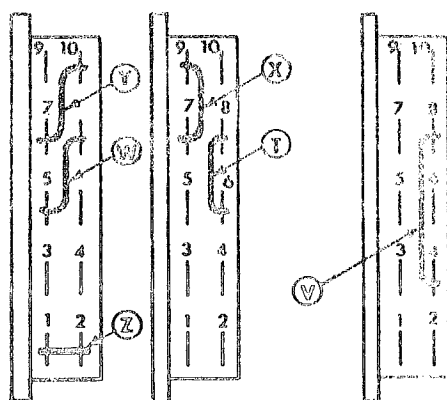

Fig. 1 - K400D (D) KTU, Circuit Options
**NOTE:** Each K400D is factory wired for options, Z, W and Y. If other options are required by the subscriber, the installer must re-wire the option terminals on the printed circuit board as required. (Fig. 1)
**2.03** If a time-out period shorter than that provided by factory wiring is desired, it can be obtained by adding a resistor across terminals (1) and (3) of the option block. See table A to determine value of resistor required to obtain the desired time-out period.
applying one of the following. (See Figure 1.)